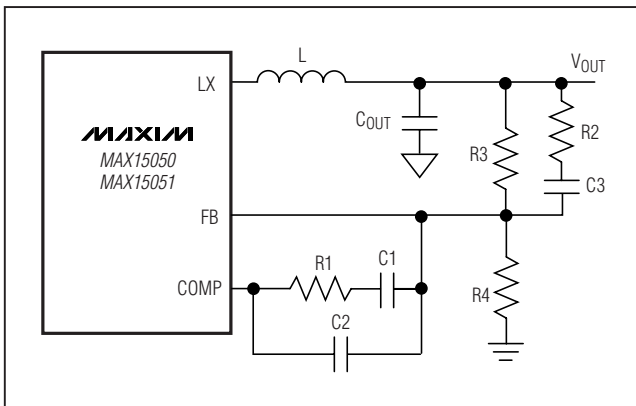
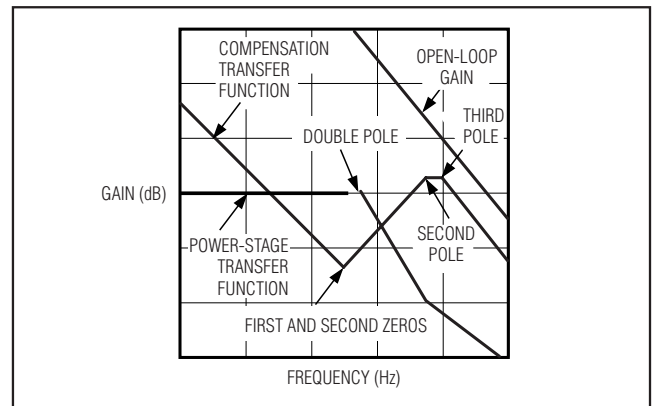

Figure 4. Type III Compensation Network
Figure 5. Type III Compensation Illustration
The MAX15050/MAX15051 high switching frequency allows the use of ceramic output capacitors. Since the ESR of ceramic capacitors is typically very low, the frequency of the associated transfer function zero is higher than the unity-gain crossover frequency,  $f_C$ , and the zero cannot be used to compensate for the double pole created by the output inductor and capacitor. The double pole produces a gain drop of 40dB/decade and a phase shift of  $180^\circ$ . The compensation network must compensate for this gain drop and phase shift to achieve a stable high-bandwidth closed-loop system. Therefore, use type III compensation as shown in Figure 4 and Figure 5. Type III compensation possesses three poles and two zeros with the first pole,  $f_{P1\_EA}$ , located at zero frequency (DC). Locations of other poles and zeros of the type III compensation are given by: